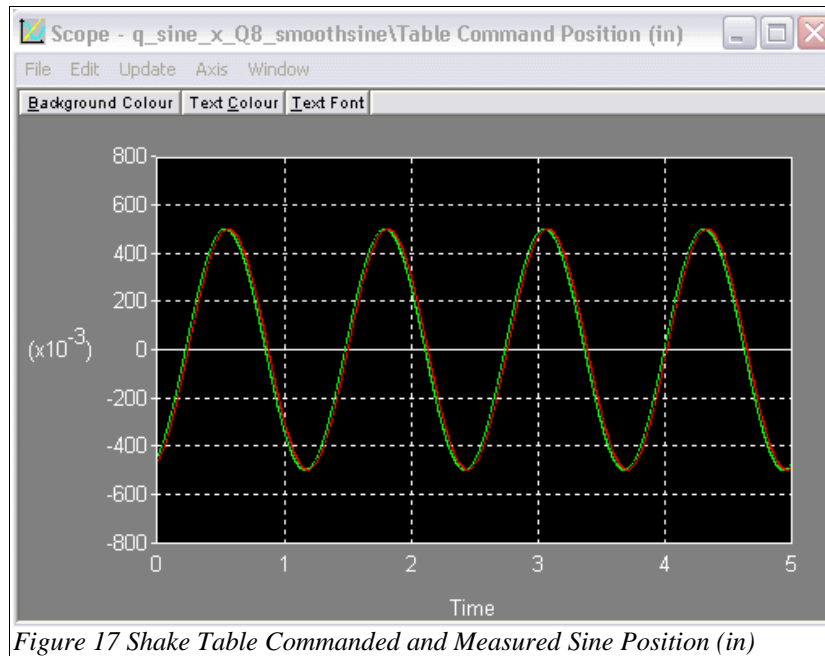

Figure 17 Shake Table Commanded and Measured Sine Position (in)
Step 7. The scope displays the commanded position and the resulting position of the table measured using its encoder. Figure 17 shows the scope when a sine wave with an amplitude of 0.5 in and a frequency of 5 Hz is given (by setting the control panel knobs as shown in Figure 16).
In Figure 17, two variables were observed on the plot – 'Table Command Position (in)' and 'Table Position (in) <encoder>'. The variable label includes a name describing the data, its units, and the corresponding sensor indicated in the <...> brackets. For example, the 'Table Position (in) <encoder>' is the position of the shake table in inches attained using an encoder. The <...> is not included for input variables such as the reference position signal 'Table Command Position (in)'. Table 11 lists all the input and output variables available for plotting in the 'q_sine_x_ZZ.wcp', 'q_sweep_x_ZZ.wcp', 'q_north_x_ZZ.wcp', 'q_elcen_x_ZZ.wcp', 'q_hach_x_ZZ.wcp', and 'q_kobe_x_ZZ.wcp' projects. Note that some variables are given in both imperial and metric units.